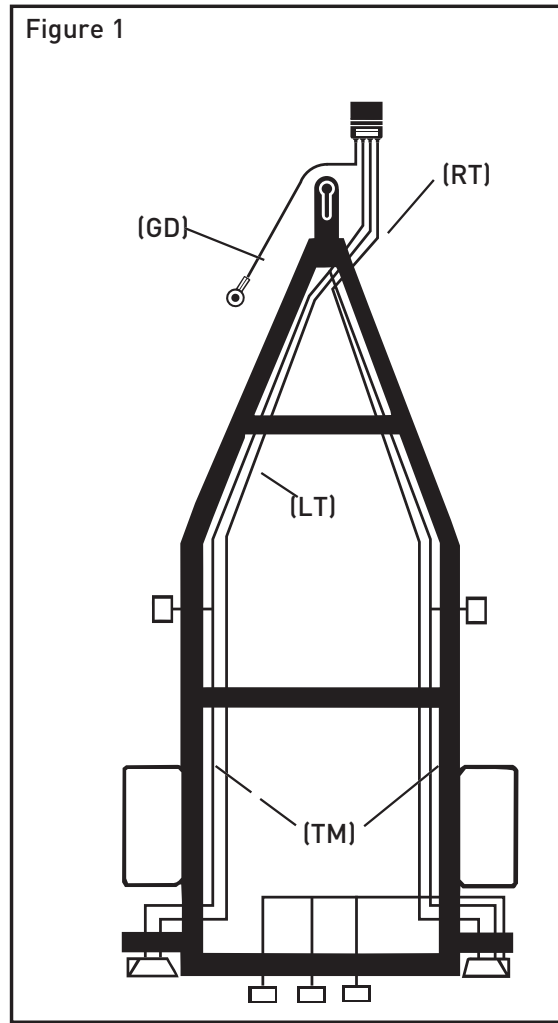

Figure 1
2. Attach wires of the 30 foot connector to the corresponding function wires as determined in Figure 1. Leave approximately 18 inches of slack between the trailer and the tow vehicle to allow the trailer to turn.